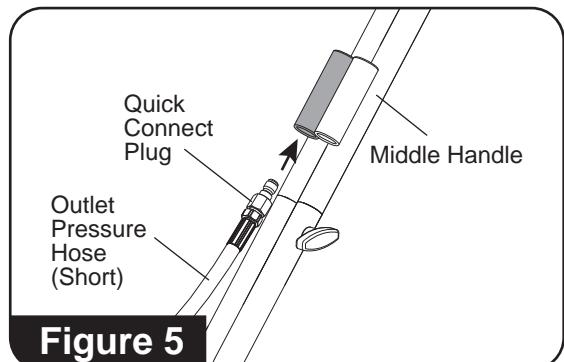

Figure 5
5. Take the short outlet pressure hose and starting with the quick connect plug end slide it through the bottom of the guide tube on the front of middle handle assembly. **(See Figure 5)**